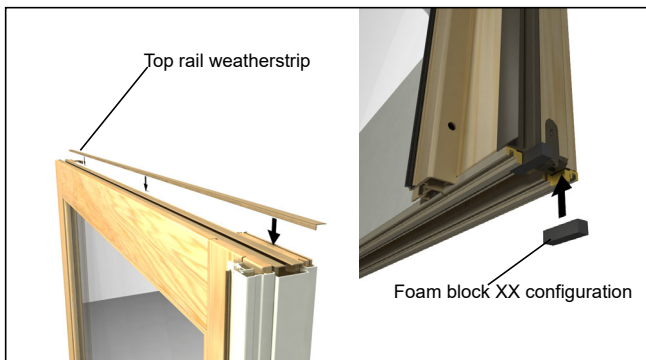

Figure 45
6. Install operator panel top rail weather strip prior to installing the panels. For biparting configurations install meeting stile foam on bottom of astragal assembly. See figure 45.